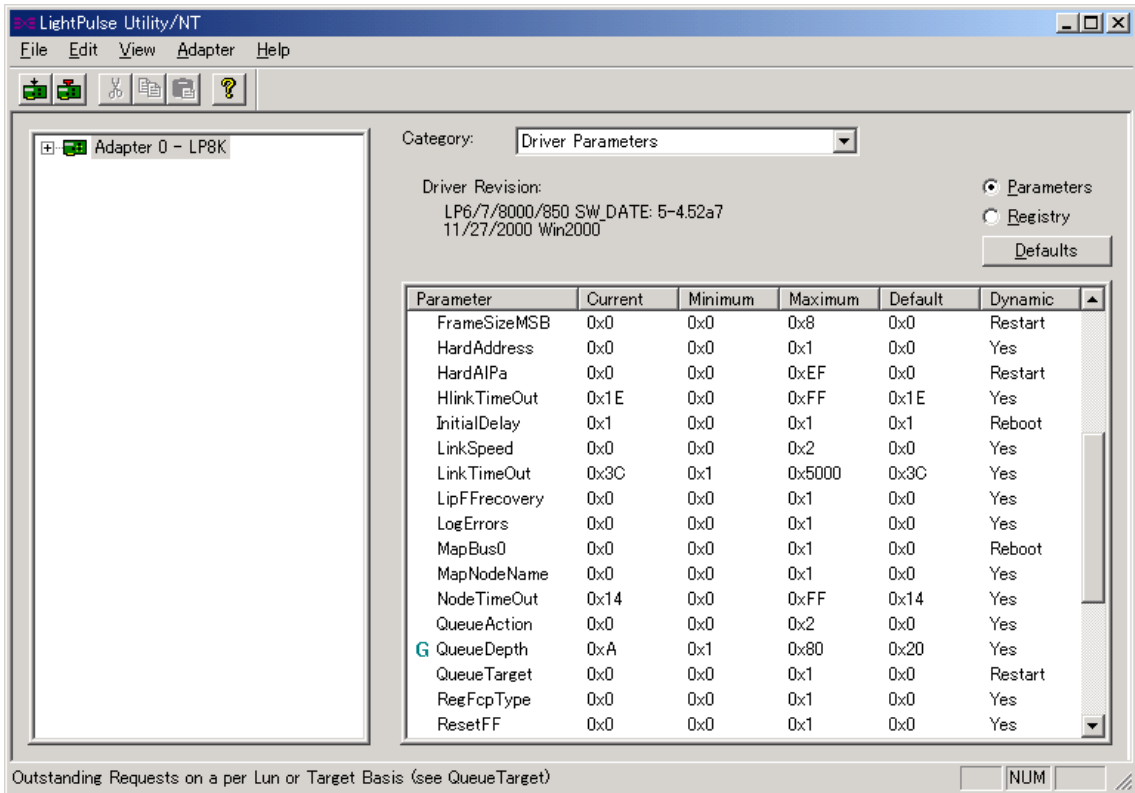

Figure 2.5 LightPulse Utility/NT Panel
- d) Select **lputilnt.exe** from the **Find: Files named** list box, then press Enter. The LightPulse Utility/NT panel opens as shown in Figure 2.5. The installed adapter(s) is/are displayed on the left side of the panel. Verify that the installed adapter(s) is/are displayed.